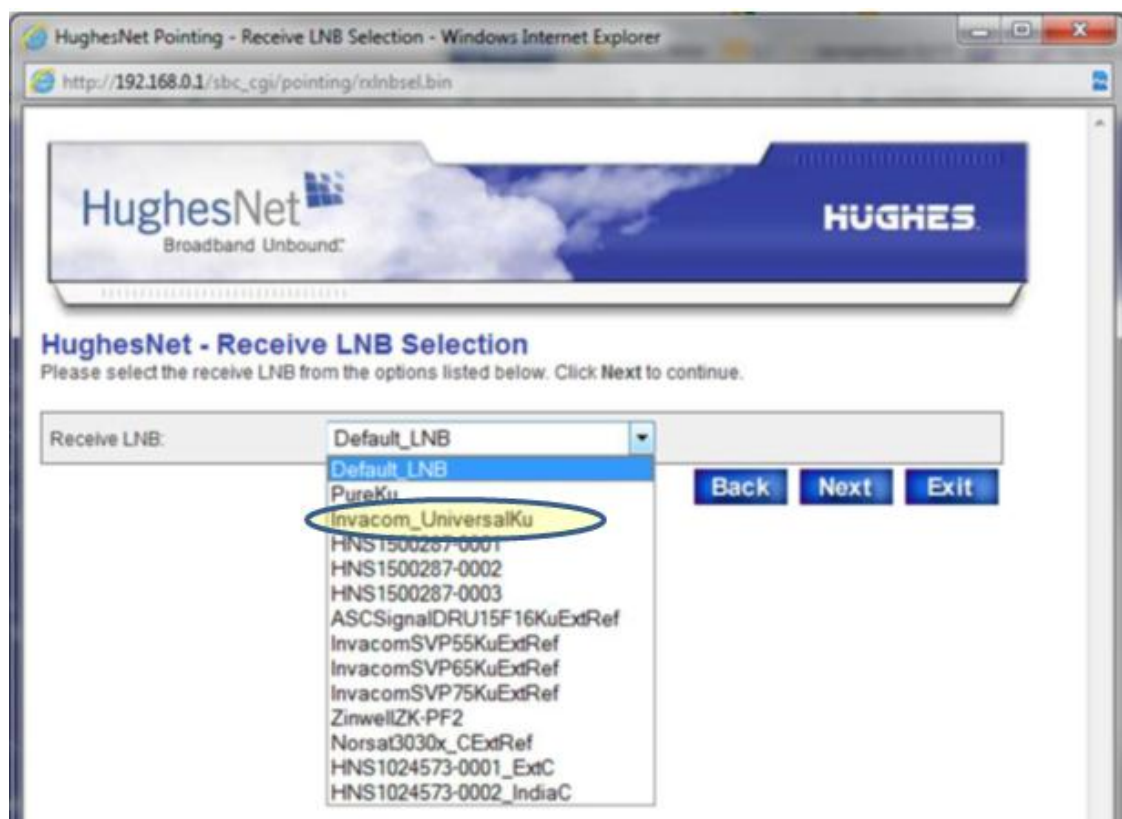

Figure 12
3. Mount the Universal Radio Pure type assembly with the 0° mark on the waveguide spacer to the top of the radio using the Isis brackets as shown in Figure 12.